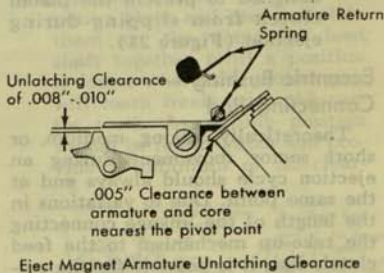

Figure 20
3. Check armature return spring for sufficient tension to return and hold the armature in the de-energized position (Figure 20).